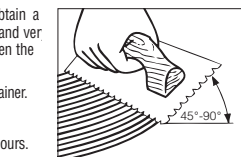

Figure 9
- Hold trowel at a minimum 45° angle (Figure 9) firmly against the subfloor to obtain a 40-60 ft.² (4-5.5 m²) per gallon spread rate. The trowel will leave ridges of adhesive and very little adhesive between the ridges. This will allow you to still see the chalk lines between the ridges and provide the recommended spread rate.